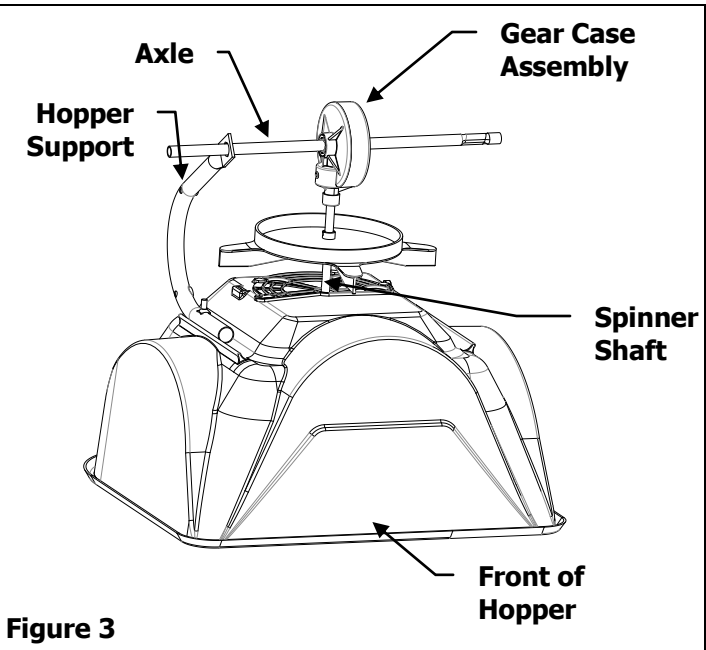

Figure 3
3. Insert Gear Case Assembly Axle through the axle hole on the Hopper Support. Inset the Spinner Shaft into the small hole in the center of the Hopper. Make sure the notched side of the Axle is to your right when facing the front of the Hopper. Repeat on other Hopper Support the same as the first one. See Figure 3.